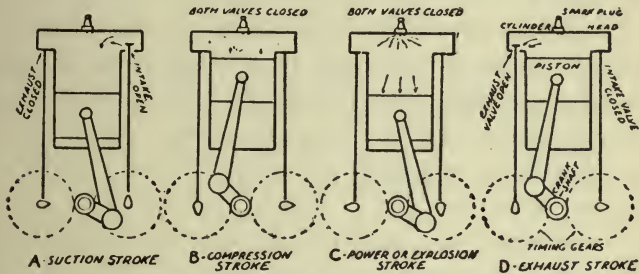

FIG. 16.—DIAGRAM OF THE FOUR STROKES OF A SINGLE CYLINDER ENGINE
The Four Strokes of the Engine.—These four strokes are called (1) the *suction stroke*; (2) the *compression stroke*; (3) the *power*, or *explosion stroke* and (4) the *exhaust stroke*, all of which are represented diagrammatically in *Fig. 16*.